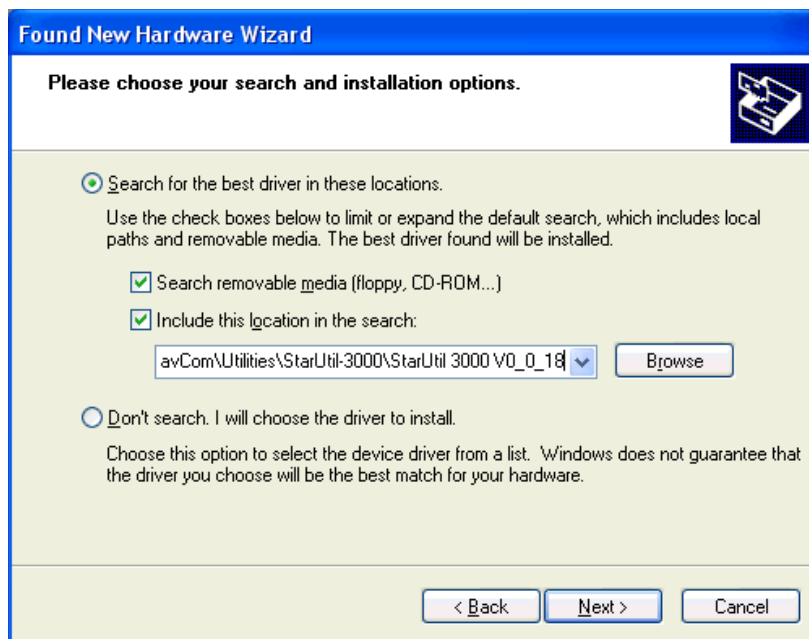

Figure 7: Found New Hardware Wizard/Choose Your Search and Installation Options
5. On the *Please choose your search and installation options* dialog box, select *Search for the best driver in these locations*, and then click *Browse* (see Figure 7).